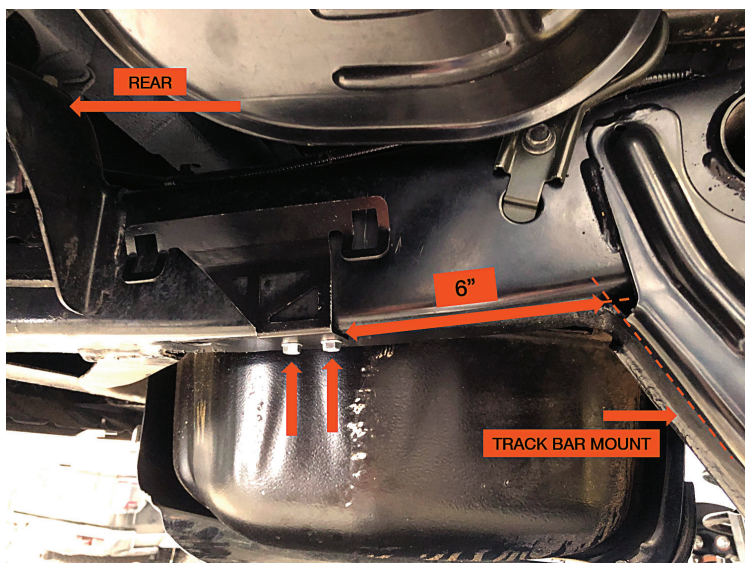

Figure 9: Right rear reservoir mounting bracket installed
- a. Hold the supplied mounting bracket against the chassis frame rail and 6" behind the track bar mount measuring from the intersection of the track bar bracket and the bottom of the chassis frame rail to the edge of the closest hole of the mounting bracket (Figure 9).